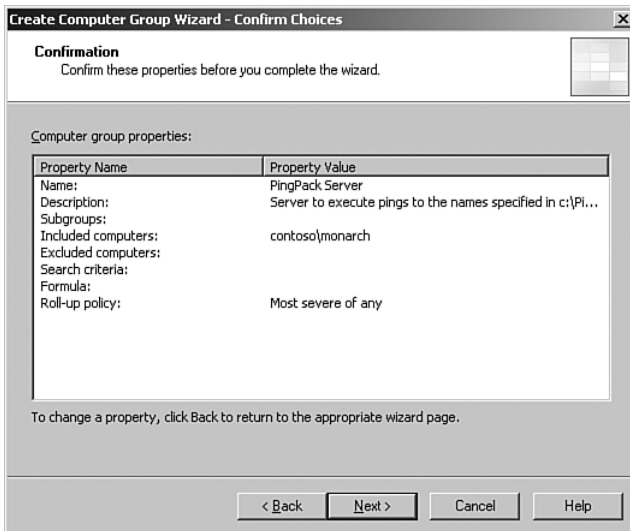

FIGURE 20.21 Create Computer Group Wizard Confirmation screen.
7. The Confirm Choices screen, shown in Figure 20.21, summarizes your specifications for the wizard.